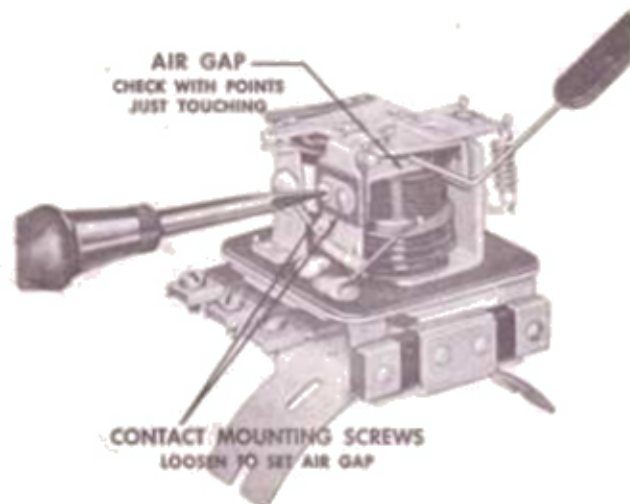

Figure 13—Current-voltage unit air gap check and adjustment (1118200 series).
**AIR GAP (1118200 Series)**—To check air gap, push armature down until the contact points are just touching, and then measure air gap (Fig. 13). Adjust by loosening contact mounting screws and raising or lowering contact bracket as required. Be sure points are lined up, and tighten screws after adjustment.